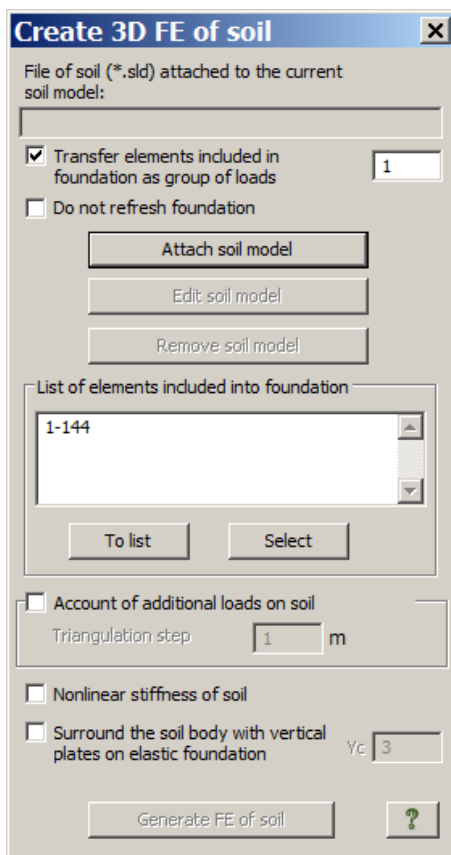

Figure 17.9. Create 3D FE of soil dialog box
- ⇒ In the **Create 3D FE of soil** dialog box (see Fig.17.9), in the **List of elements included into foundation** area, select **To list** button. (Elements of foundation slab under which it is necessary to generate 3D soil model will be included into list.)